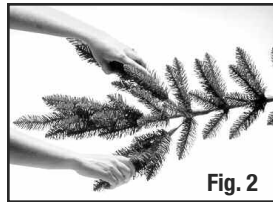

Fig. 2
If your tree has a plastic stand, slide legs upward into slots at base of bottom section (Figure 2) and tap lightly with a hammer until secure. **WARNING:** Using excessive force to assemble base may cause breakage.
2. Insert the top tree section into the green plastic opening of the lower tree assembly. This is the "pole cap" which keeps tree top section securely in place (Figure 2).
2. Each branch tip must be shaped to its proper position to give the tree a natural look. This is done by gently grasping the left and right wing tips and spreading them out away from the center tip (Figure 2).